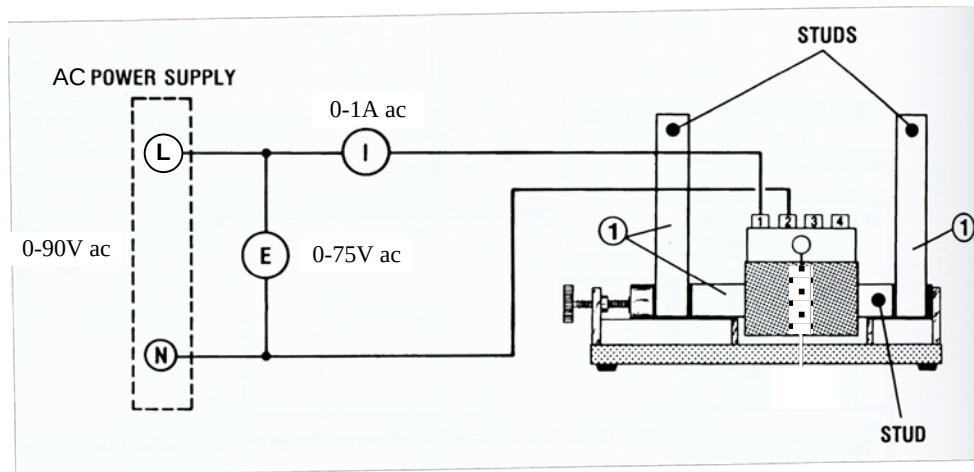

Fig. 5 Circuit used to observe the effect of eddy current in a metallic ring
5. Set up the circuit of Fig. 5 in which the two bars are mounted vertically. Tighten the screws. Make sure terminal 1 of the coil is nearest the left bar, as shown.